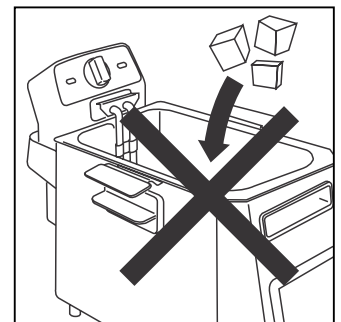

fig. 3
- A good quality solid fat may also be used. Cut the fat into pieces and melt them in suitable container such as a saucepan, then pour the liquefied fat into the deep fryer bowl. Never melt the solid fat in the basket or on the deep fryer heating element (see fig 3). Never mix different oils or fats and do not use butter or margarine as they will smoke and bubble over